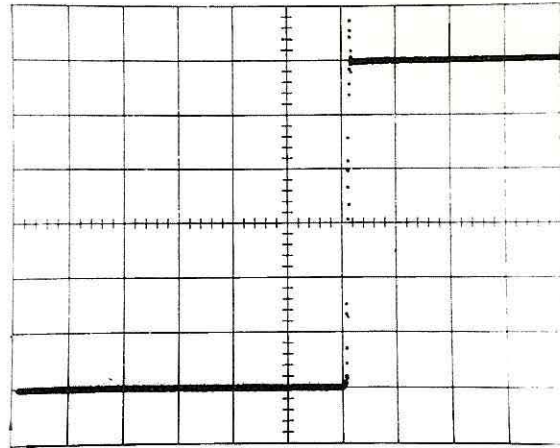

Fig. 7-14. 1.2 Volt Step at .2 VOLTS/DIV.
e. Trigger a display then center the step using the DELAY TIME MULT control and the DC OFFSET control. The display should appear as shown in Fig. 7-14.